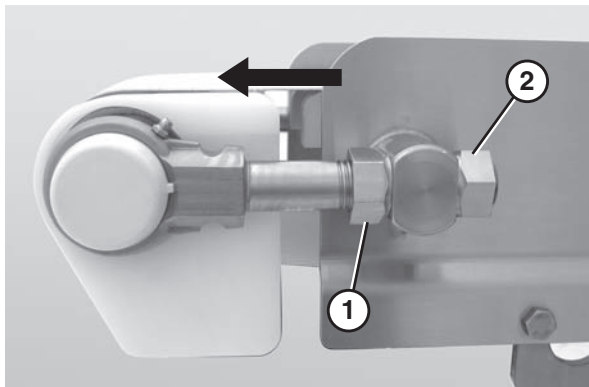

Figure 50
2. Turn the front nuts closest to the tail (**Figure 50, item 1**) clockwise in order to increase tension on the belt.
3. Tighten the back nuts (**Figure 50, item 2**) to secure the tail.
1. Loosen the back nut (**Figure 50, item 2**) on the idler tail shaft that needs to be adjusted.
2. Tighten the front nut (**Figure 50, item 1**) on the idler tail shaft to adjust the belt tracking.